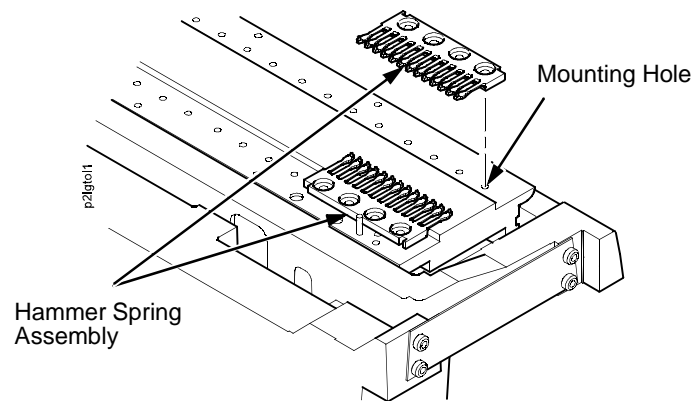

Figure 22. This figure shows how to pair hammer spring assemblies on the double hammer bank.
4. Handling the assemblies by the mounting bases only, position the first pair of new assemblies on the hammer bank in the available positions nearest (either) end of the hammer bank. Align the assemblies as closely as possible over their mounting screw holes. (See Figure 22.)